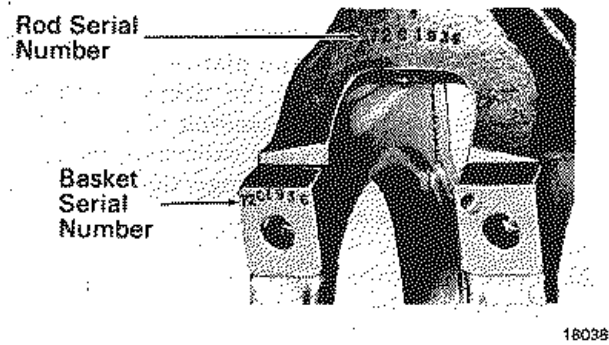

Fig. 5-18 - Rod And Basket Identification
43. Be sure that the serial number on the basket matches the serial number on the connecting rod, Fig. 5-18.